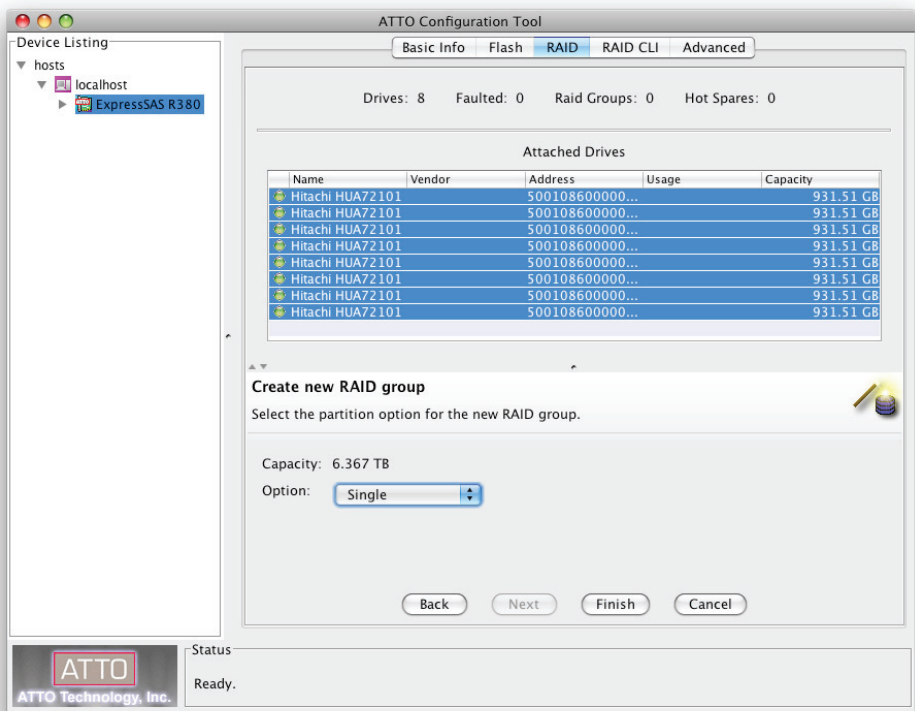

Figure 14
5. If you want the RAID group to be presented as one virtual disk (partition), click **Finish**. If you want more than one virtual disk (partition), click **Next** (see **Figure 14** on page 14), and then select one of the following options: